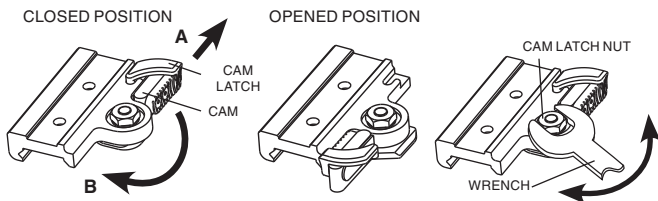

FIGURE 2-2. QUICK RELEASE MOUNT
3. To open the sight Quick Release Mount, slide the cam latch forward (Figure 2-2, arrow A) and turn the cam backward (arrow B).
6. The Quick Release Mount may be adjusted to eliminate excessive play when mounted on the rail by using the wrench to increase/decrease the cam latch nut (Figure 2-2).